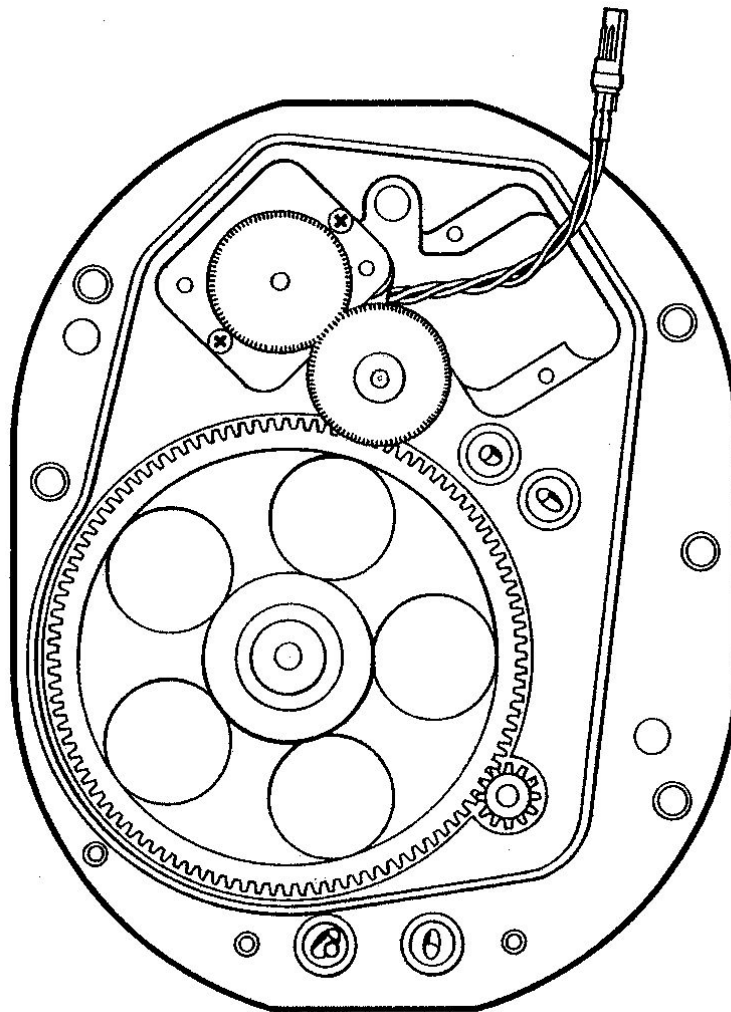

Figure 4-16 Rear view of wrist roll actuator with potentiometer and gears installed
28. Install pot assembly into the left pot cavity of the actuator body and secure using screws (32).
29. Grease all teeth of intermediary gear (43) with Lubriplate. Place gear in actuator body (25).
30. Slip one of gears (33) hub out onto pin of the gripper cylinder tail until approximately flush with the end of the pin. Apply Loctite 222 and tighten gear set screw. Slip second gear (33) hub first onto potentiometer shaft but do not tighten set screw. Figure 4-16 shows a rear view of the wrist roll actuator with the potentiometer and gears installed.